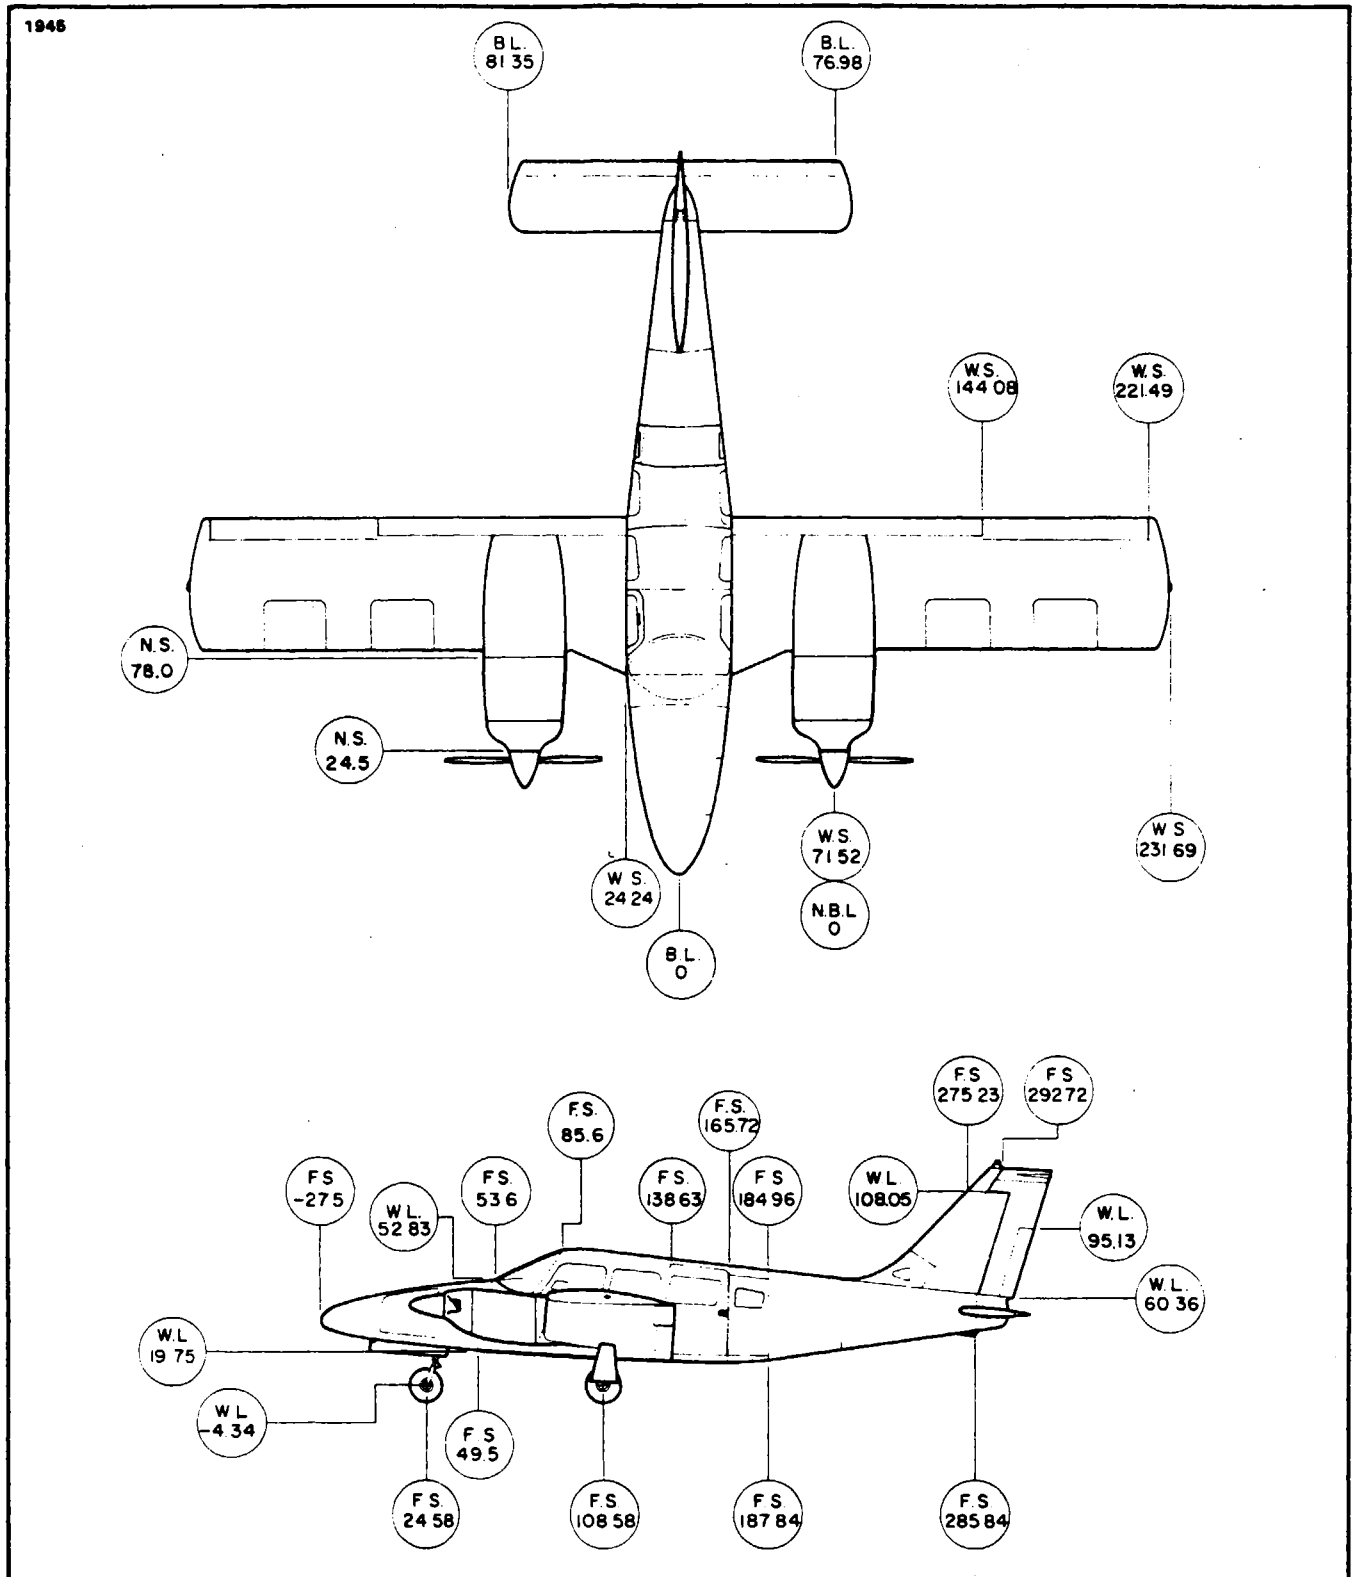

Figure 2-2. Station References
2-3. **STATION REFERENCE LINES.** In order to facilitate the location of various components of the airplane which require maintenance and servicing, a method utilizing fuselage station, wing station or buttock line (BL), and waterline (WL) designations is frequently employed in this manual. (Refer to Figure 2-2.) Fuselage stations, buttock lines, and waterlines are reference points measured by inches in the vertical or horizontal direction from a given reference line which indicates station locations of structural members of the airplane.